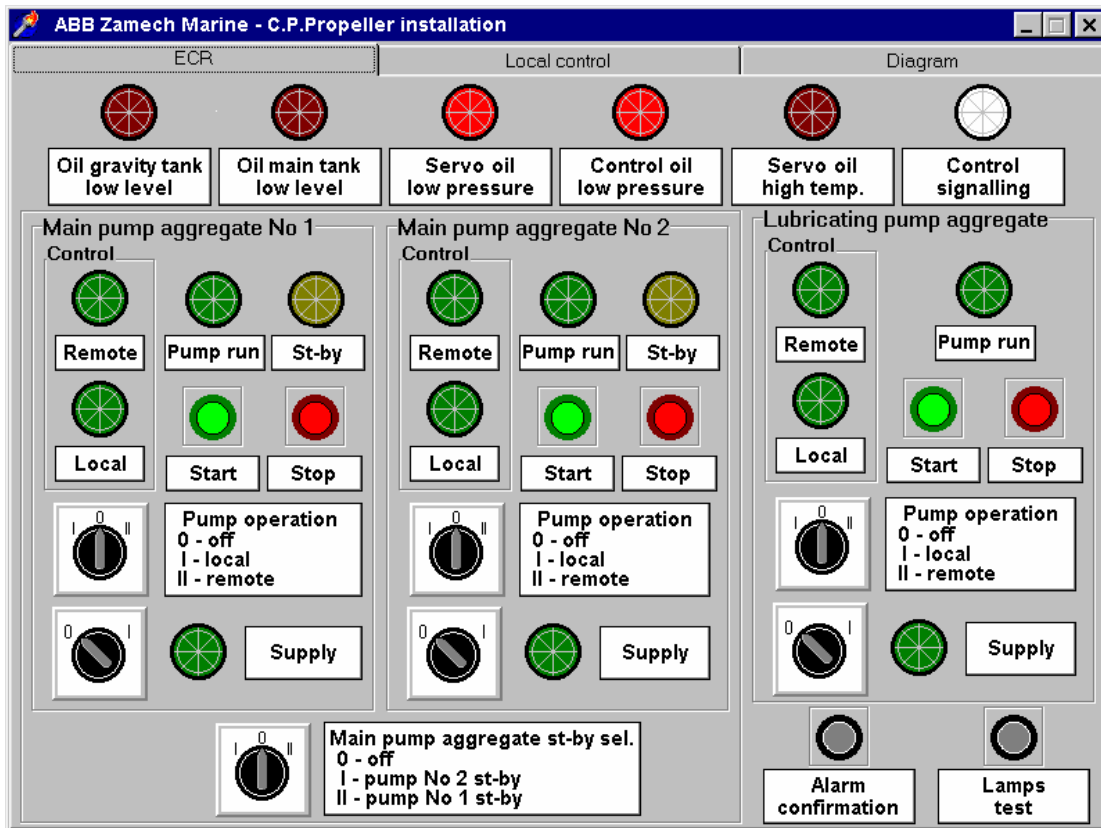
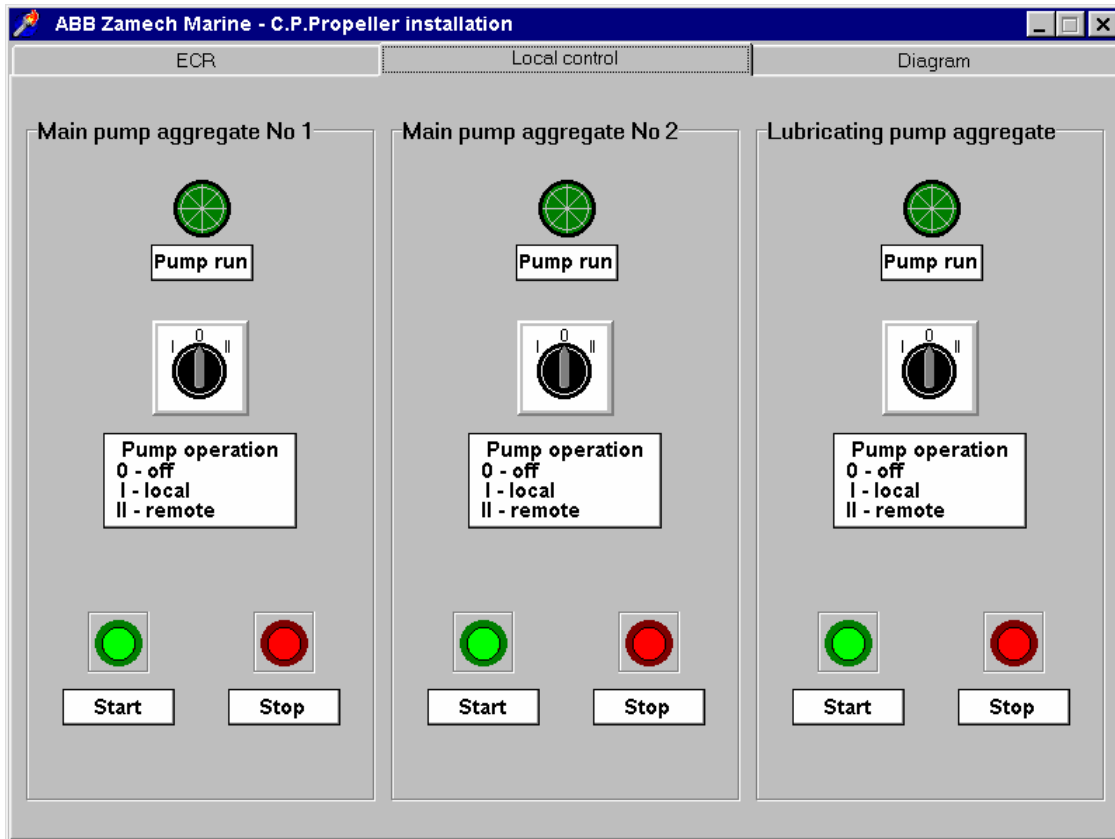

Fig . 6 Engine Control Room panel - ECR
Fig.7 Local control panel
C.P. propeller installation consists of two control panels. One is in Engine Control Room – ECR ( Fig. 6 ) the second one is for local control and is near the C.P. propeller installation ( Fig .7) .